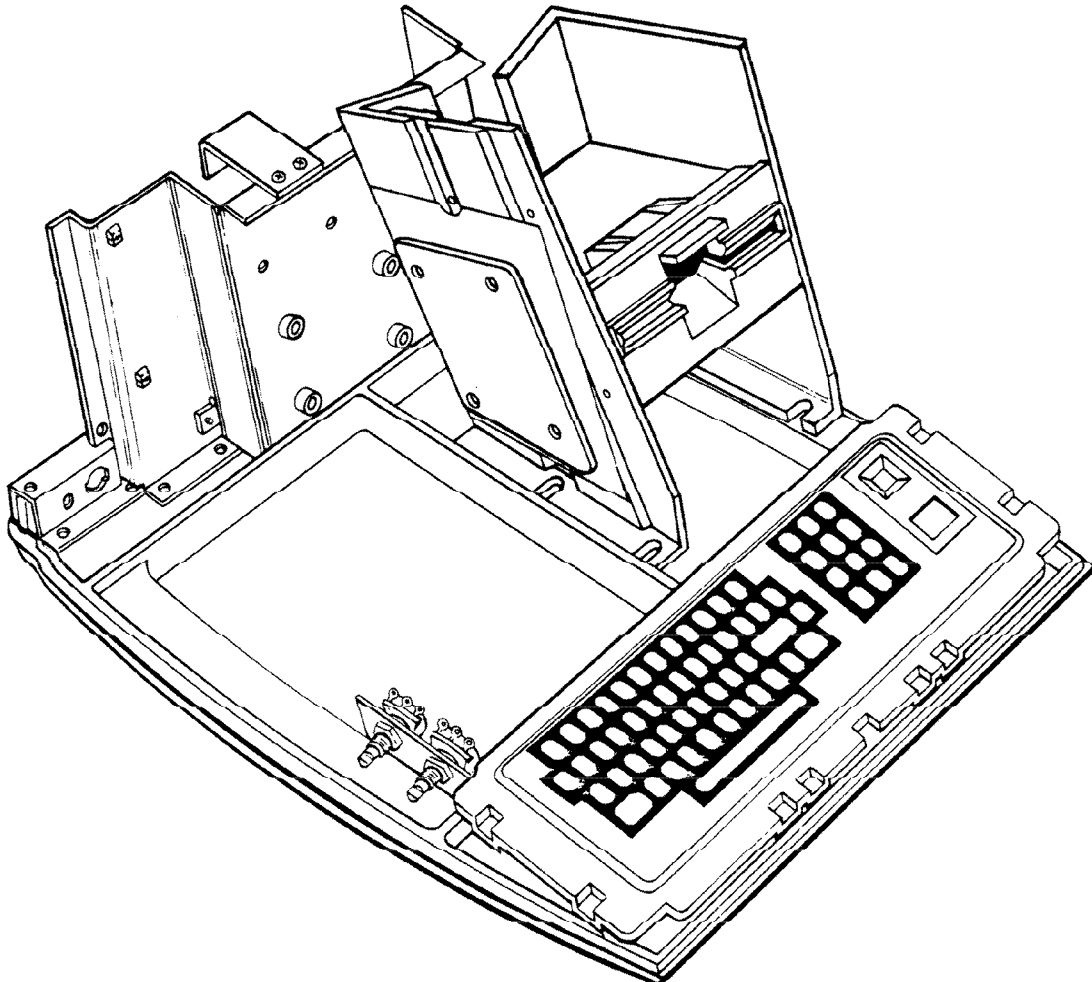

FIGURE 5. DISK DRIVE \emptyset AND DISK POWER SUPPLY IN POSITION
16. Position the Disk Drive in the bottom position between the Mounting Brackets and fasten the Drive using four #6 x 1/2" screws and four #6 flat washers. Be careful not to tighten the screws too tight. Refer to Figure 5.
17. Position the Disk Power Supply (with power connectors SK-2, 3, and 4 positioned upward) on the left Disk Mounting Bracket. Fasten using four #6 x 1/2" screws and four #6 washers. Refer to Figure 5.